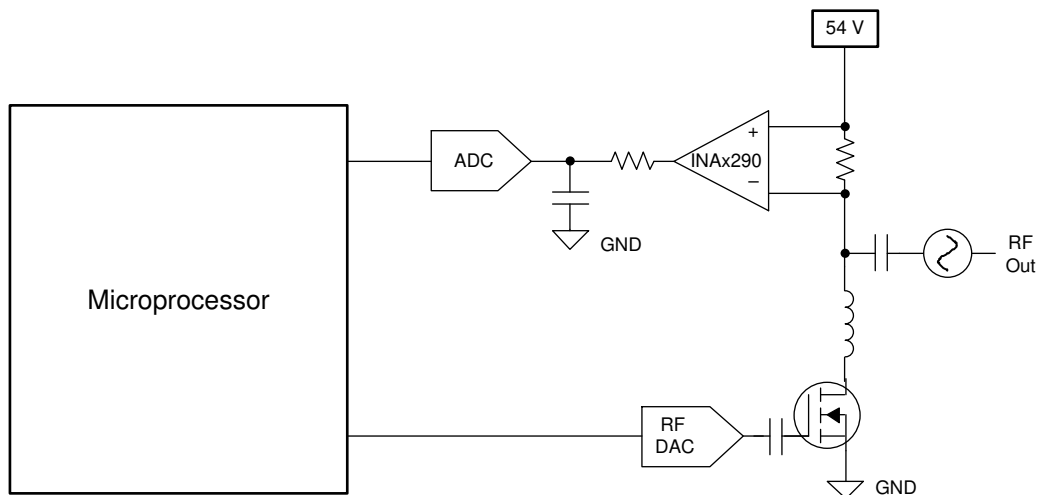

图 9-2. Current Sensing in a PA Application
The INAx290 is a unidirectional, current-sense amplifier capable of measuring currents through a resistive shunt with shunt common-mode voltages from 2.7 V to 120 V. The circuit configuration for monitoring current in a high-side radio frequency (RF) power amplifier (PA) application is shown in 图 9-2.